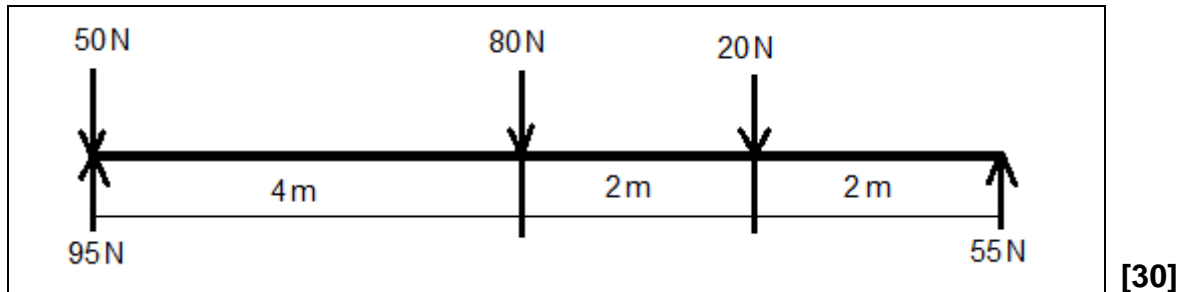

FIGURE 5.3
5.3 FIGURE 5.3 shows a beam of 8 meter which is subjected to different loads.